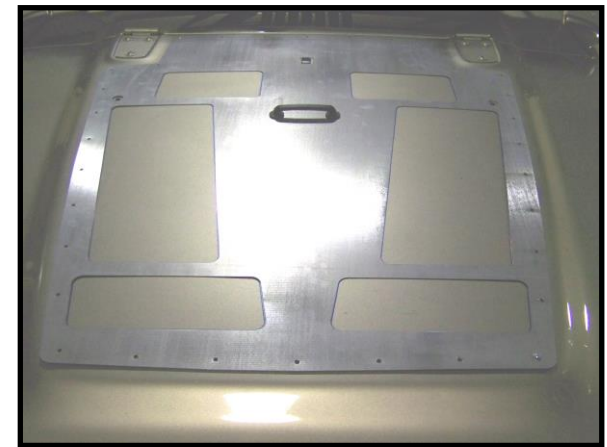

Figure 1
Step 3 – Place steel template in the center of hood as seen in (Figure 1). ****Picture may vary from your Template.**** Visually make sure the holes in the template are centered with the holes for the windshield tie down bracket and the template is exactly where you want it.